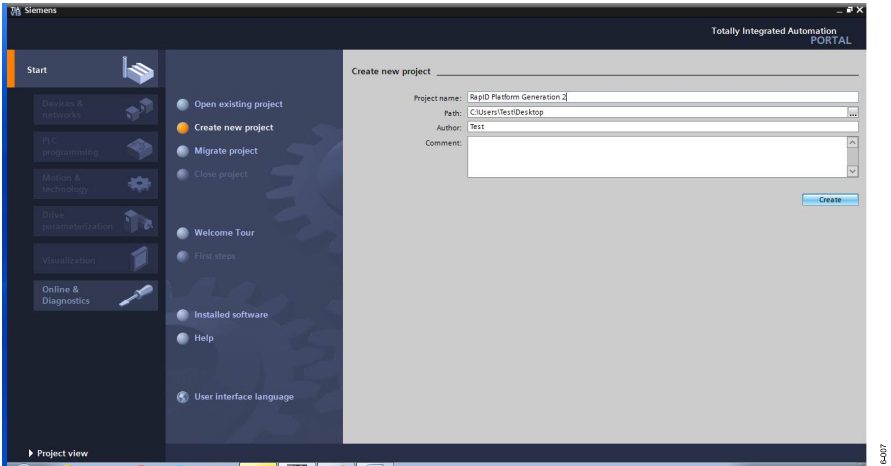

Figure 70. Naming New Project Window
2. Click **Create New project** to display the naming the new project window (see Figure 70).